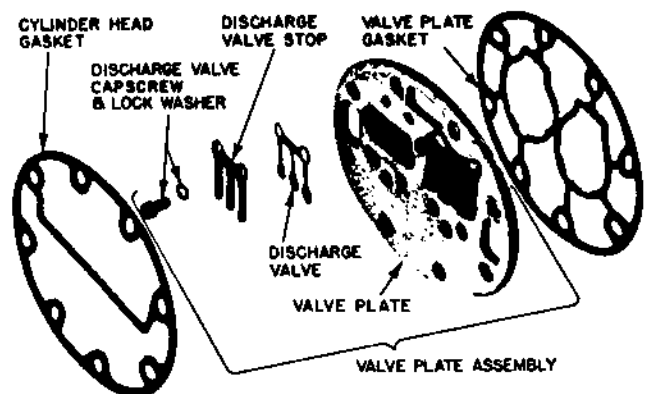

Figure 3-2. Exploded View of Valve Plate Assembly
b. Remove the discharge valve capscrews, lock washers, stops, and valves. (See figure 3-2.)